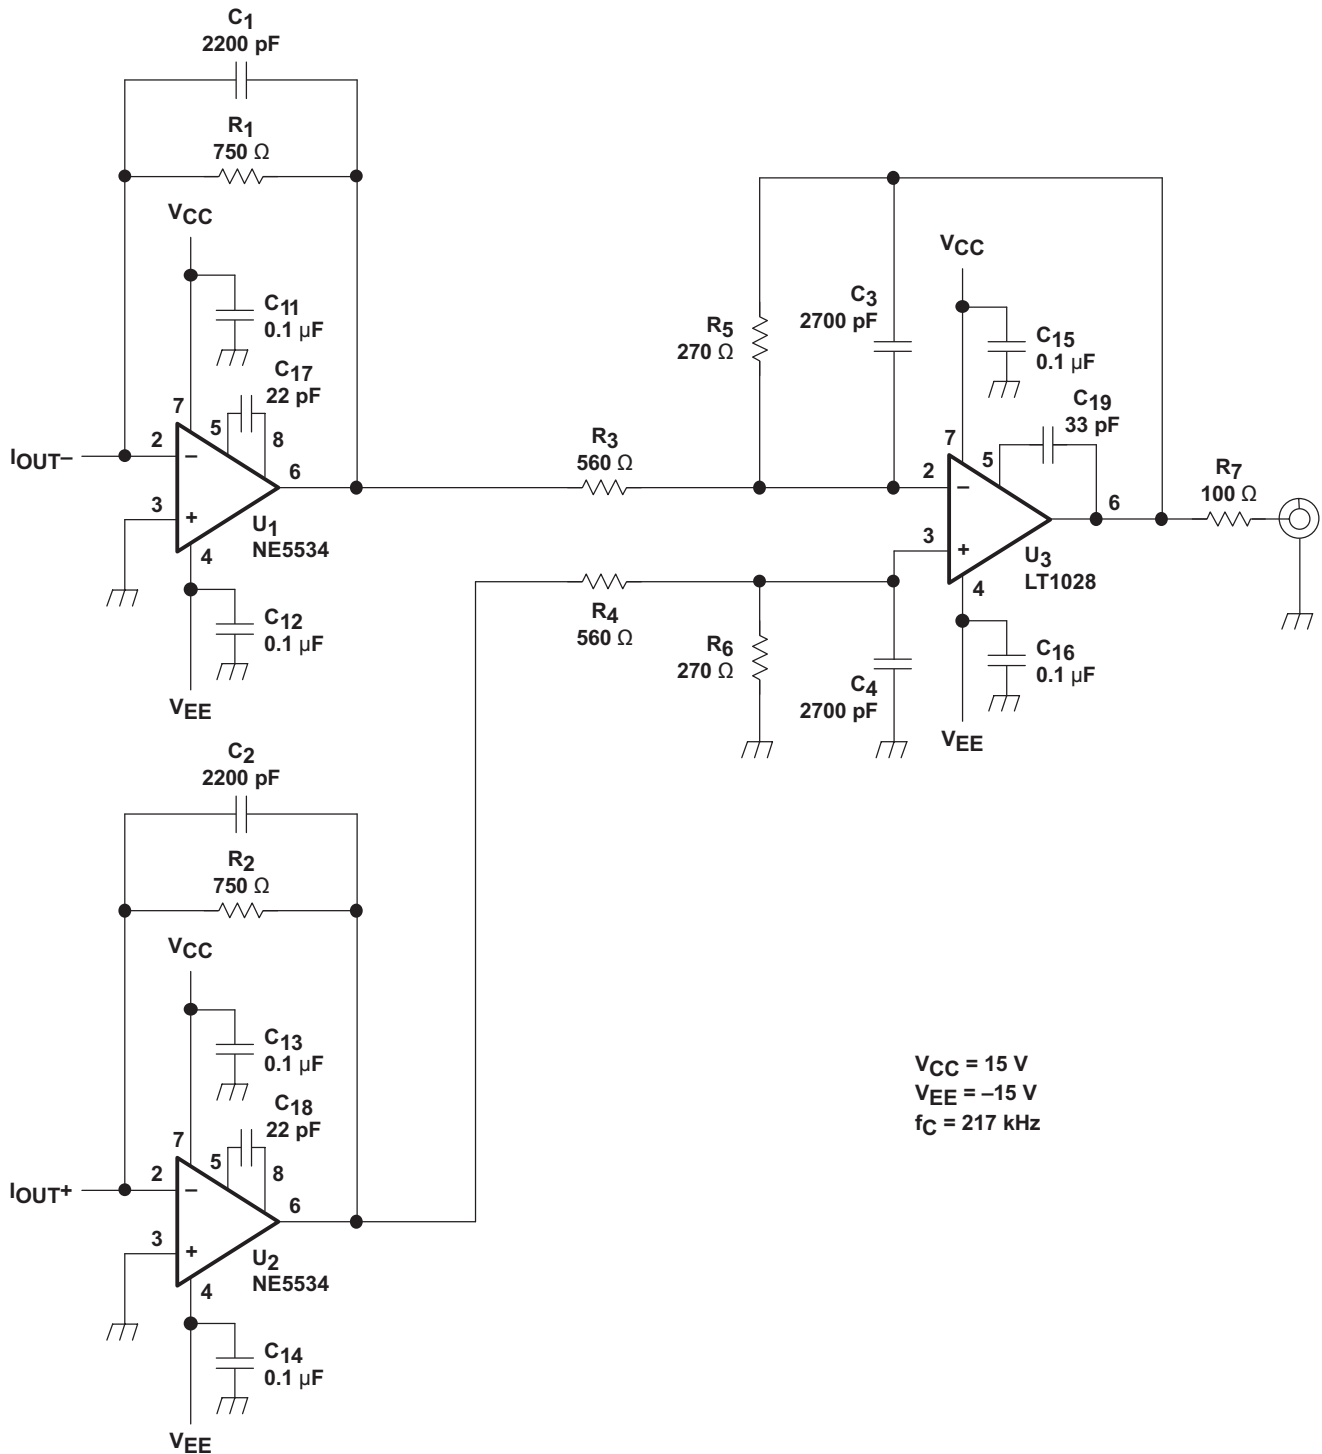

Figure 25. Measurement Circuit,  $V_{OUT} = 2 \cdot V_{RMS}$
(1)  $V_{OUTN}$  is the output of U1,  $V_{OUTP}$  is the output of U2, and  $V_{OUT}$  is the output of U3 in the measurement circuit of Figure 25.
With the use of the MONO pin, the PCM1794A can output either differential stereo audio, or differential mono audio. Figure 25 shows an example of stereo output. Figure 27 shows an example of mono mode.
In the circuit of Figure 25, the output level is  $2\text{-}V_{\text{RMS}}$ , and 127-dB S/N is achieved. The circuit of Figure 26 should result in the highest performance. In this case the output level is set to  $4.5\text{-}V_{\text{RMS}}$ , and 129-dB S/N is achieved (stereo mode). In monaural mode, if the output of the L-channel and R-channel is used as a balanced output, 132-dB S/N is achieved (see Figure 27).